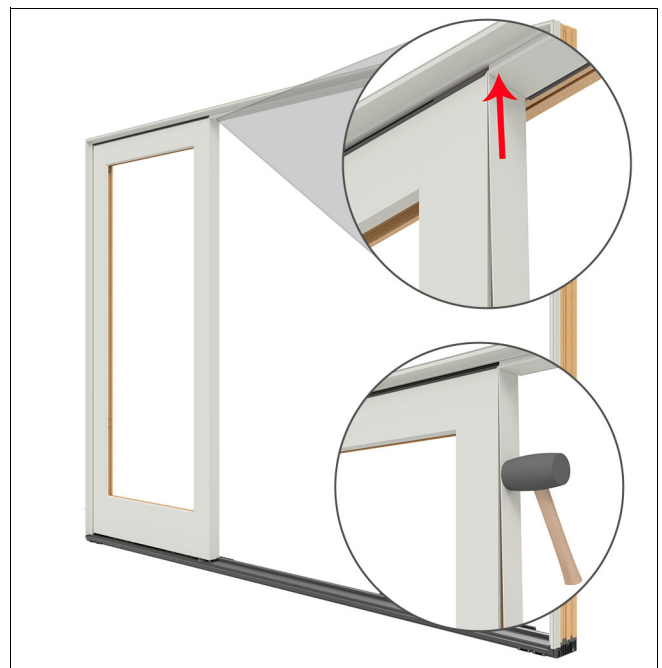

Figure 33
11. Install the aluminum stationary stile edge cover. The edge cover will slide up in between the head jamb parting stop and the stationary panel. Tap into place with a rubber mallet. See Figure 33.